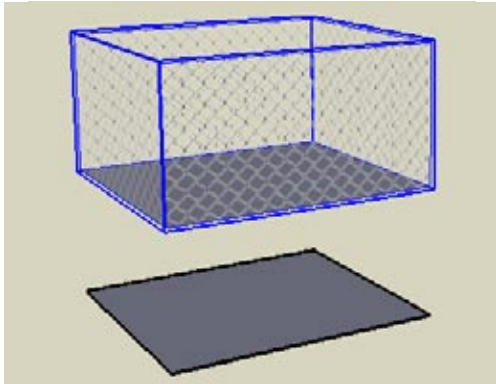

Figure 4-51
3. Select the original box (not including the copied face) and make it a group (Figure 4-51). This is so that the fence faces won’t be broken when objects are added inside the box.